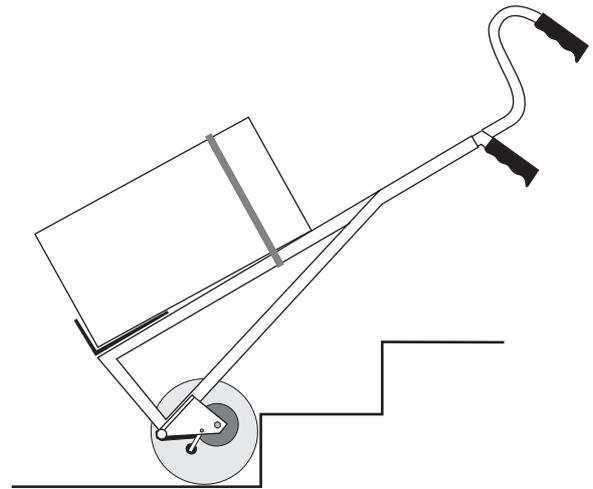

FIGURE 27
1. To climb stairs, drive with the **CargoMaster** backwards toward the stairs and climb 2 to 3 steps. Please make sure that the **CargoMaster**'s big wheels are touching the edge of the lowest step as shown in Figure 27.